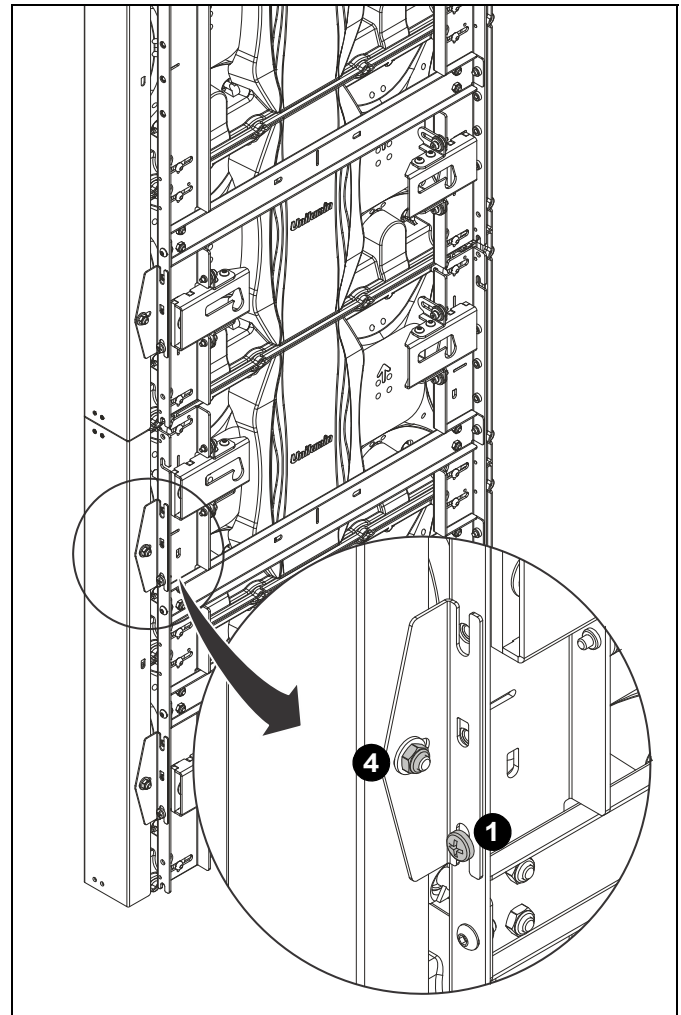

Figure 6
1. Loosen Phillips head screws (installed in Step 2) on mount. (See Figure 6)
4. Loosen hex nuts on the cover brackets. (See Figure 6)